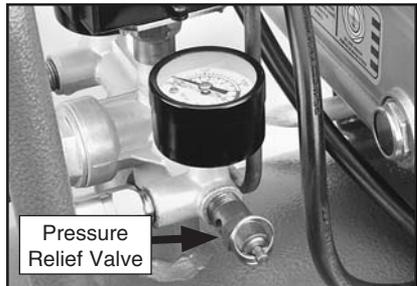

Figure 17. Pressure safety valve.
1. Clean any dirt or dust from the pressure relief valve shown in **Figure 17**.